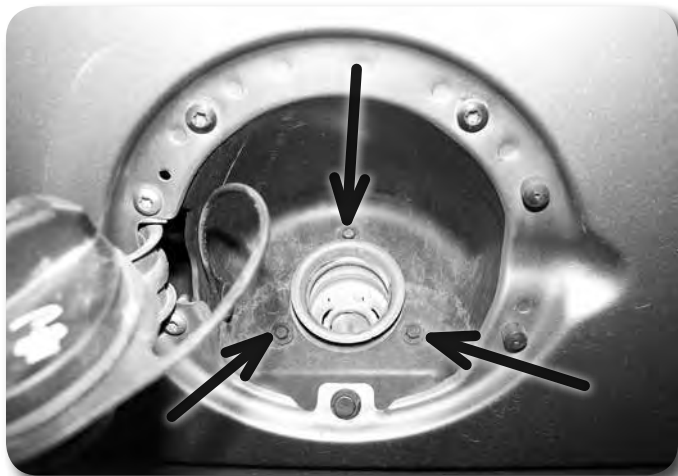

Figure 14
24. Disconnect the fuel filler neck from the body by remove the 3 screws **Figure 14**. Save the screws.